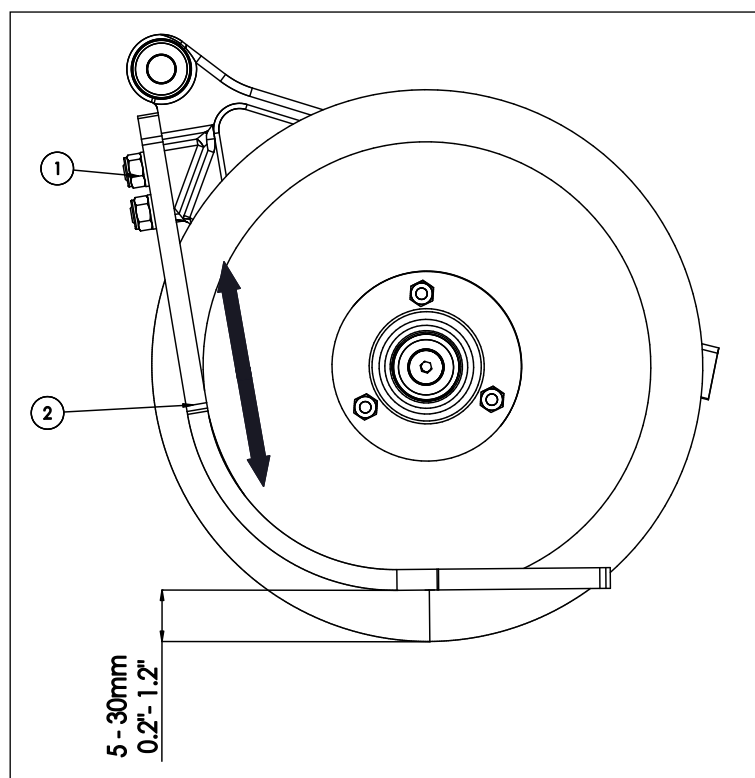

Figure 4
The working depth can be adjusted by adjusting the sliding foot of the seed blades. Loosen the bolts (1). Now move the sliding feet (2) to the desired depth, from 5 to 30 mm working depth. (see Figure 4)